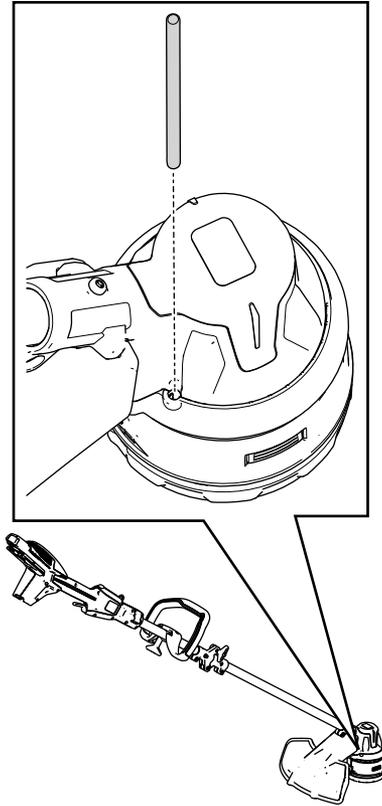

Figure 18
2. Insert a small-diameter tool (such as a screwdriver) through the motor housing and into the groove in the fan to secure the trimmer head so it does not freely rotate (Figure 18).